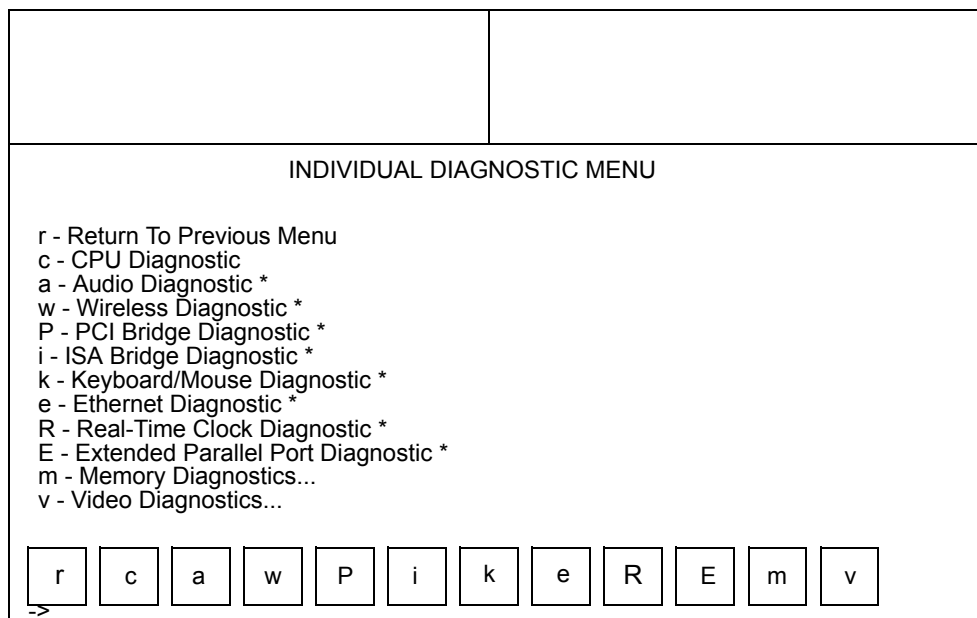

Figure 5-5: Individual Diagnostic menu
- i** — Displays the **Individual Diagnostic** menu; diagnostics marked with an asterisk indicate tests run by touching the **a** key on the **Main Diagnostic** menu (refer to *Figure 5-5 on page 5-13*).